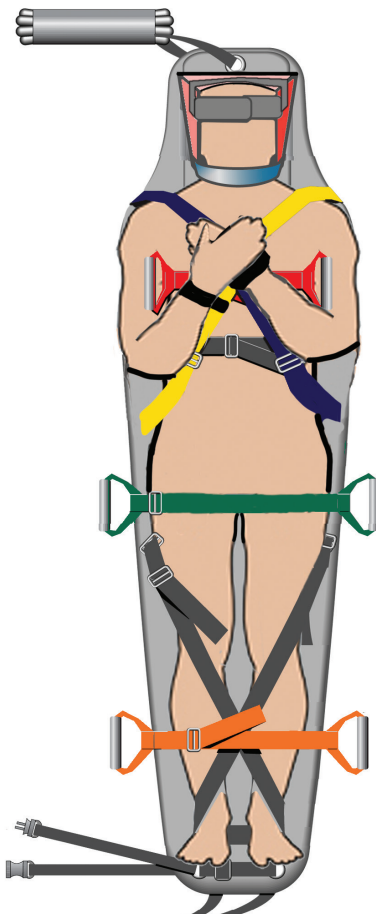

Figure 11
9. If a collar is being used, attach the velcro chin strap across the collar and to the head hugger as shown on Figure 11, which also shows arms secured in wrist cuffs